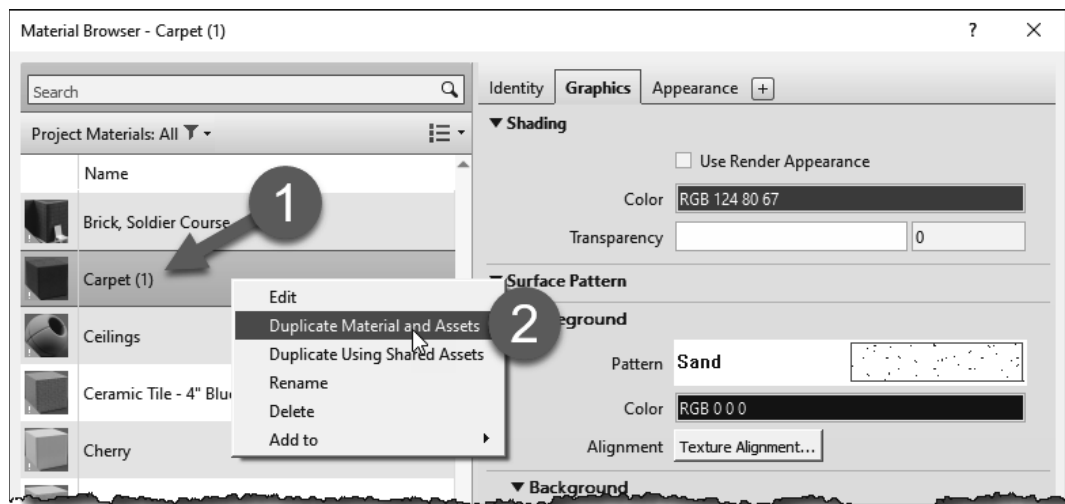

FIGURE 4-3.2 Duplicating a material
4. In the *Project Materials* list, select **Carpet (1)**.
5. Right-click *Carpet (1)* and then click the **Duplicate Material and Assets** in the pop-up menu (Figure 4-3.2).